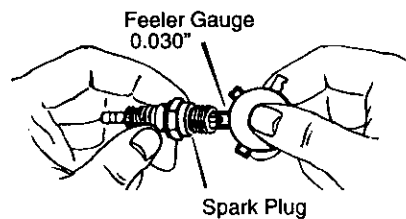

Figure 24
2. Be sure **spark plug** is clean and free of foreign material. Check electrodes gap with a wire **feeler gauge** and reset gap to 0.030" if necessary. See Figure 24.